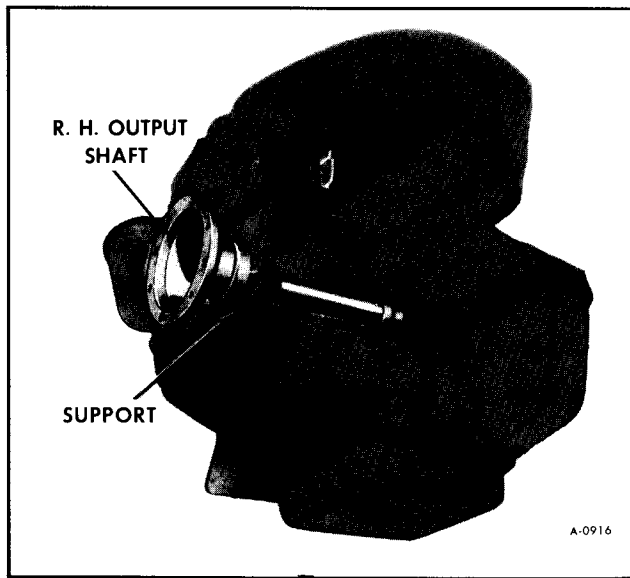

Figure 4—R.H. Output Shaft Attachment
4. Disconnect support from engine. (figure 4)
6. Install support to engine and brace. (figure 4)
6. Disconnect R.H. output shaft support from engine (figure 4) and remove from final drive.